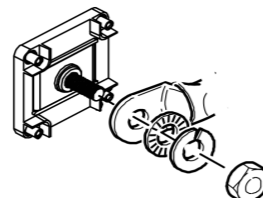

Figure 16 DC Cable Connections
Use only appropriately sized copper cable. Loose connections, improper connections, and under-rated cables will overheat. Make sure that the supplied bolts on the inverter/charger are tightened to a torque of 15–16 ft-lbs (20.4–21.7 Nm). Torque all other connections to the manufacturer's specifications. Make sure the DC cable, washers, and bolt are assembled in the order shown in Figure 16.
4. Connect one connector on the POSITIVE (+) cable to the POSITIVE DC terminal on the inverter/charger, as shown in Figure 16. The connector goes on first, then the flat washer (steel), lock washer (steel), and 3/8" bolt (brass).
6. Connect one connector on the NEGATIVE (-) cable to the NEGATIVE (-) DC terminal on the inverter/charger, as shown in Figure 16. The connector goes on first, then the flat washer (steel), lock washer (steel), and 3/8" bolt (brass).